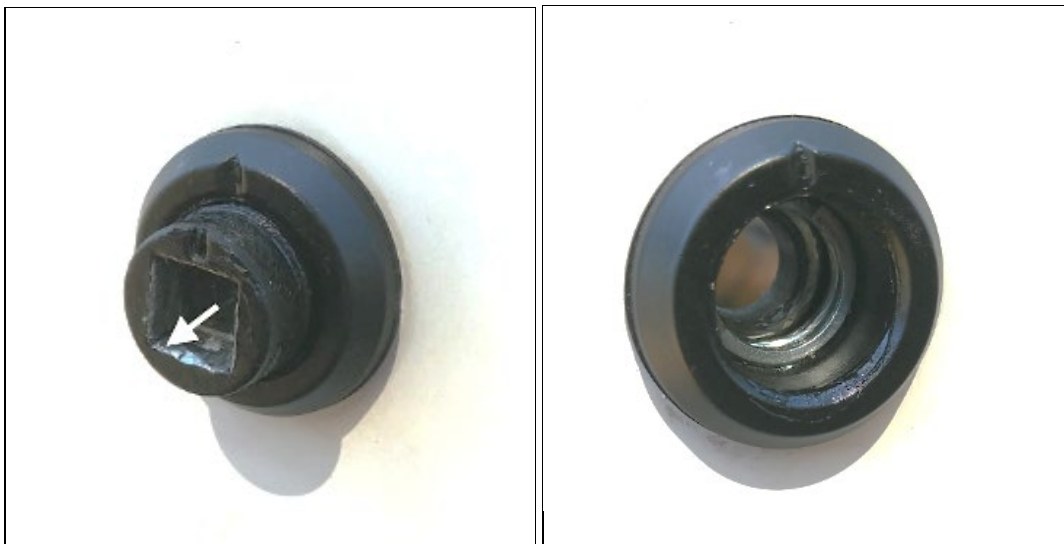

FIG.6 BARREL OUT OF CYLINDER
6. Push the barrel out of the cylinder & clean all lock cylinder parts. The inside of the cylinder housing, the spring, the barrel and its O-ring must be cleaned from all dirt and grease using a suitable O-Ring/rubber safe cleaner (Fig.6).